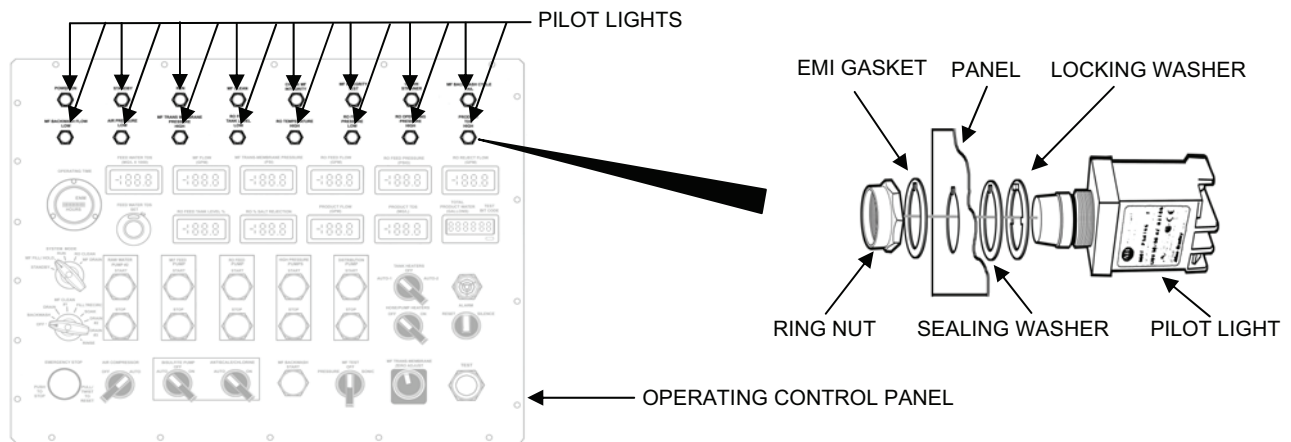

Figure 4. Pilot Light Assembly Removal.
1. Remove a pilot light as follows (see Figure 4):